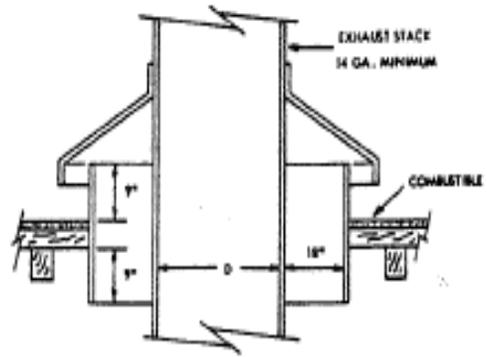

Figure 3, Smoke Stack Installation Through Combustible Roof
7.6 The Building Code Standards of the National Fire Protection Association require that where a metal stack passes through a combustible roof, such roof shall be guarded by a metal sleeve or thimble extending not less than nine inches above and below the roof, and providing not less than eighteen inches clearance on all sides of the stack. (See Figure 3)